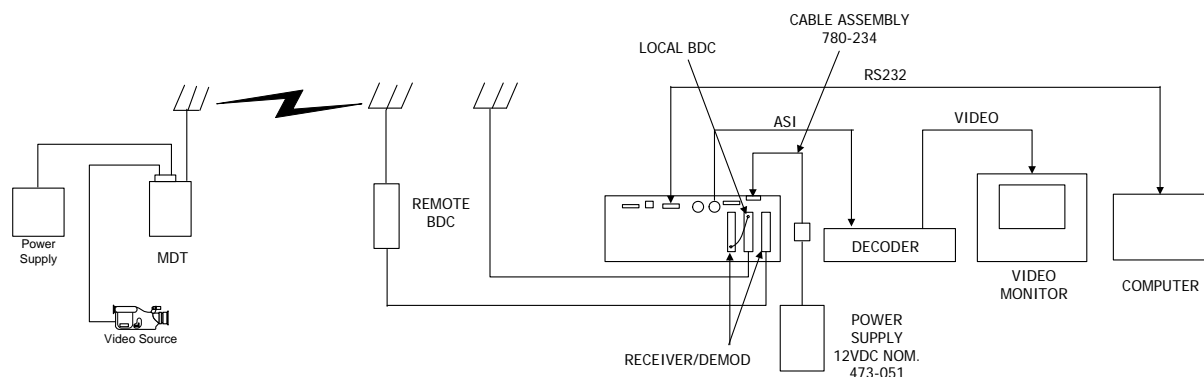

Figure 3 System Configuration two channels
Figure 3 shows a basic MSR system configuration. The steps necessary to setup the system configuration in Figure 3 are shown below.
- If an optional AC/DC Power supply is purchased (GMS # 473-051), attach the XLR connector (male) to the XLR connector (female) of cable 780-C0234. Attach the two pin Molex connector of 780-C0234 to P1 of the MSR chassis. (Ref. Figure 3). Plug in the AC plug of the power supply into an 115 VAC Outlet. See Appendix D for optional power supply.